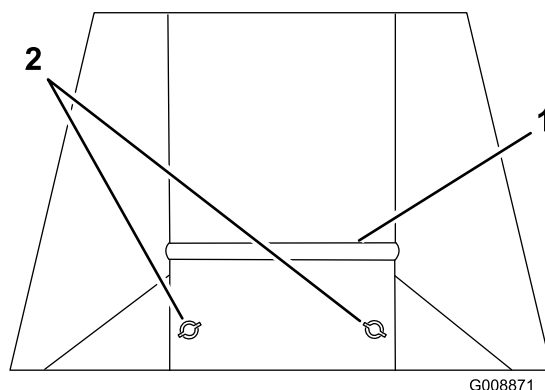

Figure 9
2. Loosen the 2 nuts on the mowing conditions plate and slide the plate up if you are mowing short, dry grass, or slide it down if you are mowing long, wet grass (Figure 9).